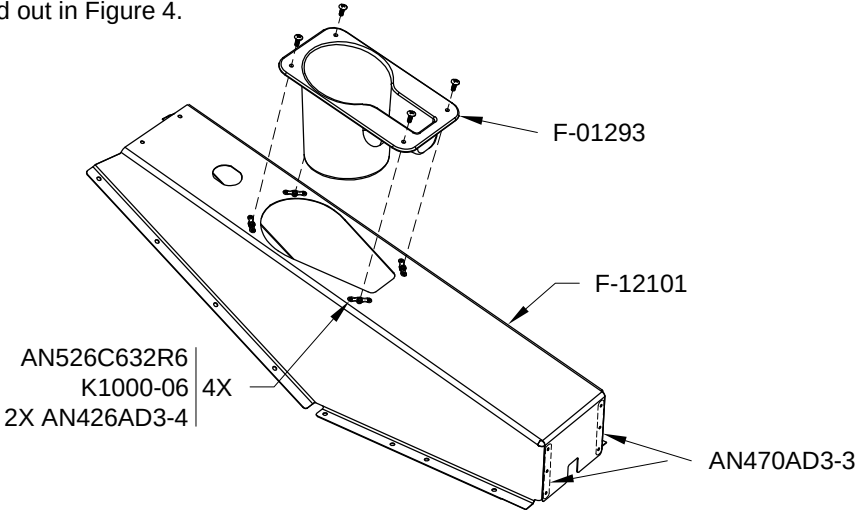

FIGURE 3: INSTALLING THE CUP HOLDER
Step 3: Dimple #40 the nutplate rivet holes in the F-12101 as shown in Figure 3. Dimple, then rivet the nutplates to the F-12101 with the rivets shown.
Step 4: Rivet together the sides of the F-12101 with the rivets shown in Figure 3.
Step 6: Install the F-01293 using the hardware shown in Figure 3.